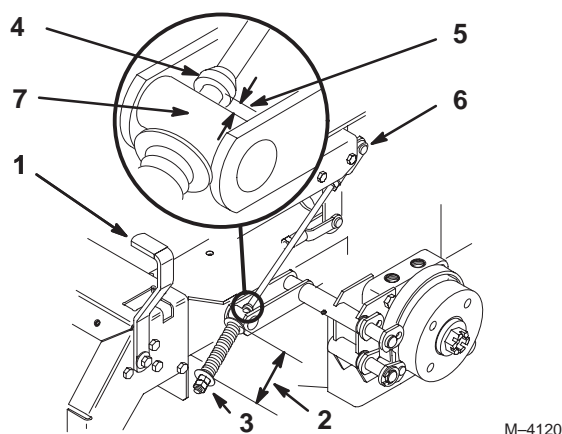

Figure 53
2. Measure the length of the spring. Measurement should be 2-3/4 inch (70 mm) between washers (Fig. 53).
3. If adjustment is necessary, loosen the jam nut below the spring and tighten the nut directly below the yoke (Fig. 53). Turn the nut until the correct measurement is obtained. Tighten the two nuts together and repeat on opposite side of unit.
6. Measure the distance between the trunnion roller and the collar on brake rod. Measurement should be 3/16 - 1/4 inch (5-7 mm) (Fig. 53).
7. If adjustment is necessary, loosen the jam nut directly below the yoke. Turn the bottom adjusting nuts until the correct measurement is obtained (Fig. 53). Tighten jam nut at yoke